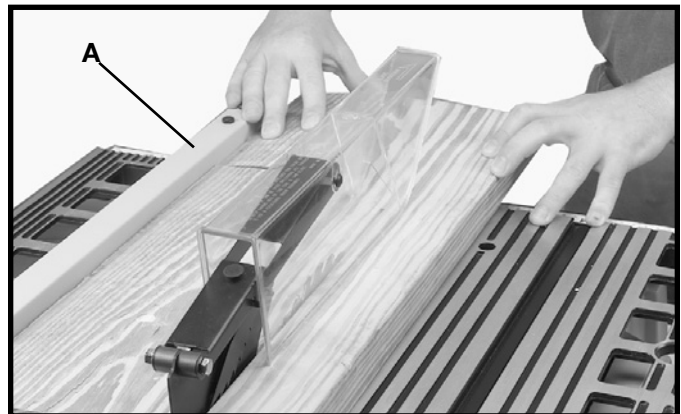

Fig. 40
Ripping is cutting lengthwise through a board. The rip fence (A) Fig. 40 is used to position and guide the work. One edge of the work rides against the rip fence while the flat side of the board rests on the table. Since the work is pushed along the fence, it must have a straight edge and make solid contact with the table.
1. Start the motor and advance the work holding it down and against the fence. **Never** stand in the line of the saw cut when ripping. When the rip width is 6 inches or wider, hold the work with both hands and push it along the fence and into the saw blade (Fig. 40). The work should then be fed through the saw blade with the right hand. Only use the left hand to guide the workpiece. Do not feed the workpiece with the left hand. After the work is beyond the saw blade and anti-kickback fingers, remove hands from the work.